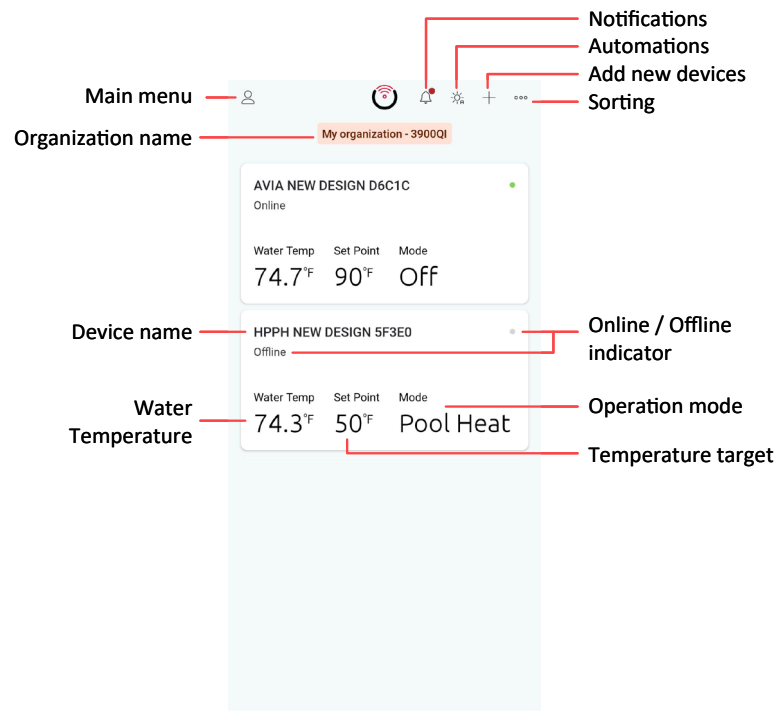

Figure 93. Main View - Heaters List
- Raymote organization list can handle 1 or multiple Commercial and Residential Raypak heaters equipped with Raymote. See **Figure 93**.